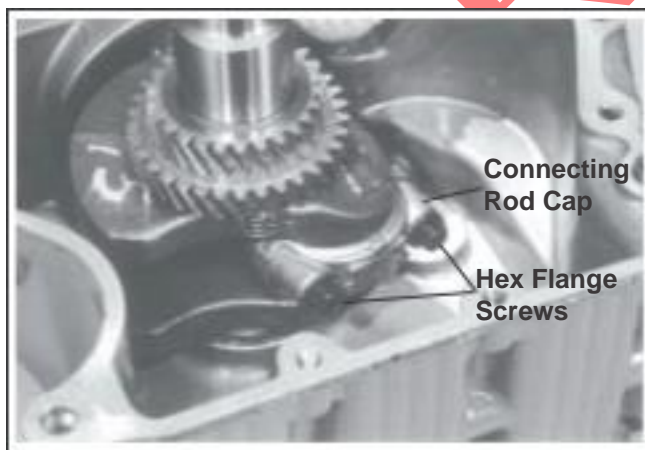

Figure 9-50. Removing Connecting Rod.
1. Remove the two hex flange screws and connecting rod cap. See Figure 9-50.